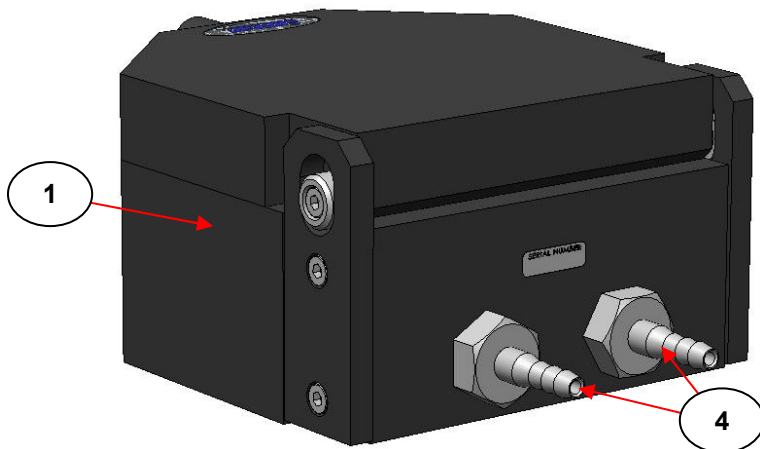

Fig 1. Cooling Chamber Water Connection Ports
The cooling chamber (1) has water inlet/outlet ports (4) at the rear of the unit and the black silicone tubing supplied with the Atlas™ Heated Platens simply pushes on to these ribbed hose type connections. (See Fig 1.) For additional safety, cable ties can be placed around the tubing and hose connections to prevent the tubing from becoming disconnected if the cooling water supply pressure is high. For installation of the cooling chamber (1) into the water cooling circuit of the Atlas™ Heated Platens, it does not matter which of the inlet/outlet port (4) hose connections are connected for the **water in** supply and the **water out** towards the Heated Platens first and then to a drain or the thermo-circulator unit.